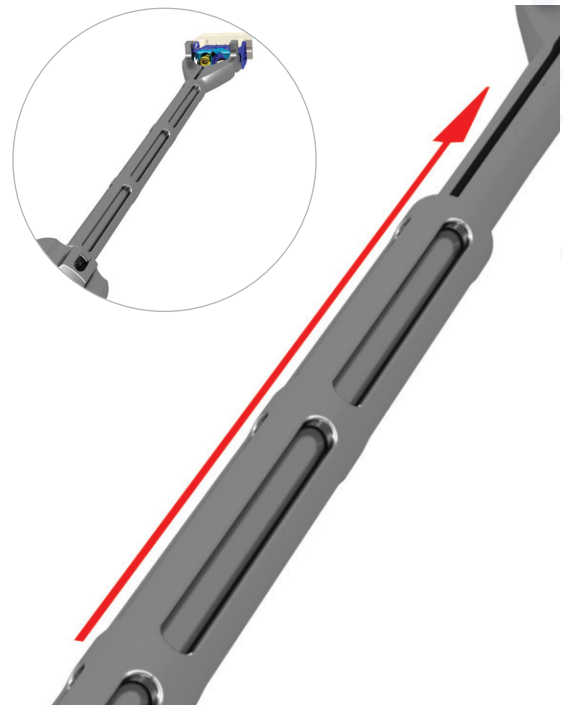

Figure 13
- Secure the implant by rotating the sleeve clockwise and sliding the inserter guide sleeve toward the plate until it bottoms out on the distal threads. Rotate the sleeve clockwise, engaging the threads until secure (Figure 13).